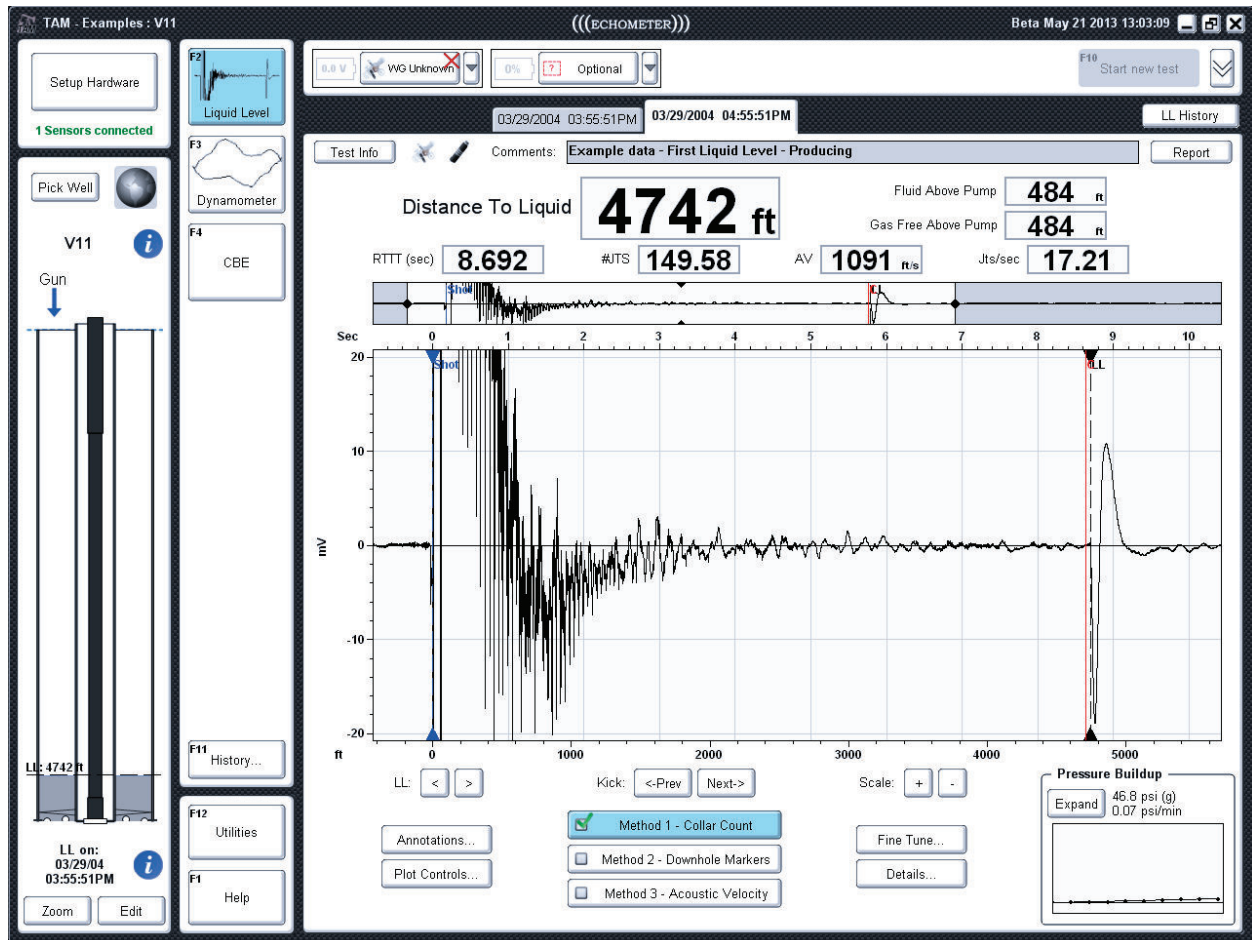

Figure 1: Main LL Analysis Screen
The primary **Liquid Level (LL)** analysis screen (Figure 1) shows the acoustic trace and results, such as distance to liquid, acoustic velocity, and fluid above pump at the top of the screen and a detailed wellbore schematic with the corresponding fluid distribution. At the bottom of the screen are buttons used for plot modification and analysis updates.